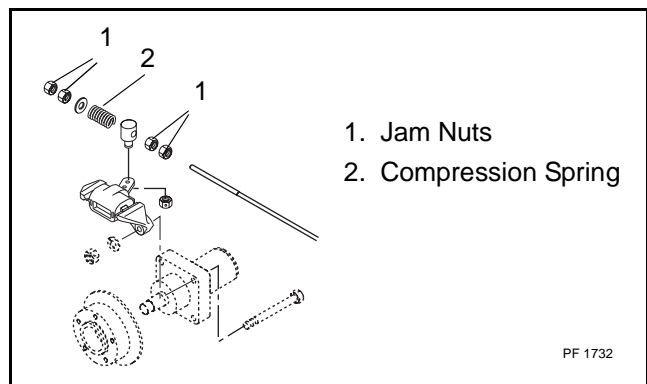

Figure 14
1. The parking brake may be adjusted through the use of the jam nuts on the brake rod which push against the compression spring which pushes on the caliper arm. See Figure 14.